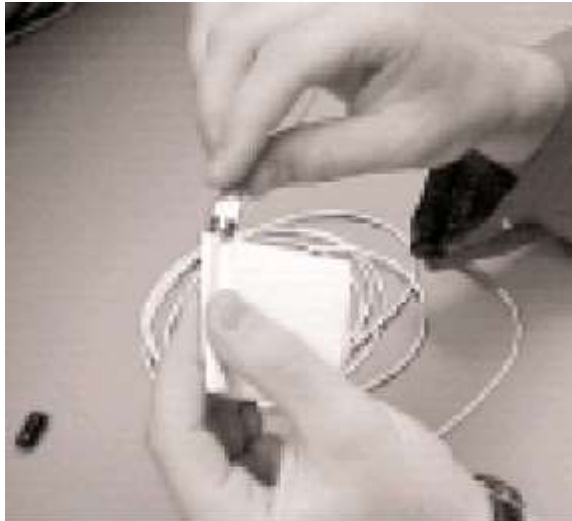

Figure A.5* Cleaning Fiber Ends
3. Gently wipe the fiber end with a lint-free cloth moistened with isopropyl alcohol, as shown in Figure A.5*.